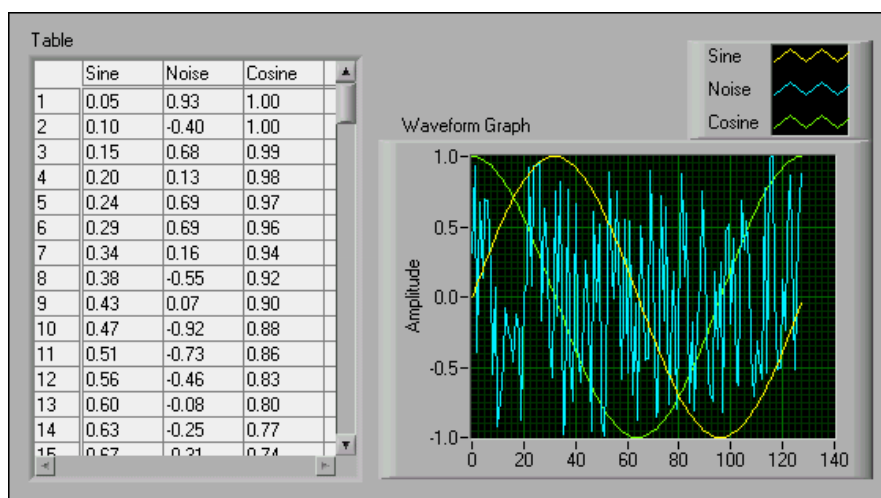

Figure 9.9
1. Open the **Spreadsheet Example VI** located in the `C:\Exercises\LabVIEW Basics I` directory. The front panel in Figure 9.9 is already built.